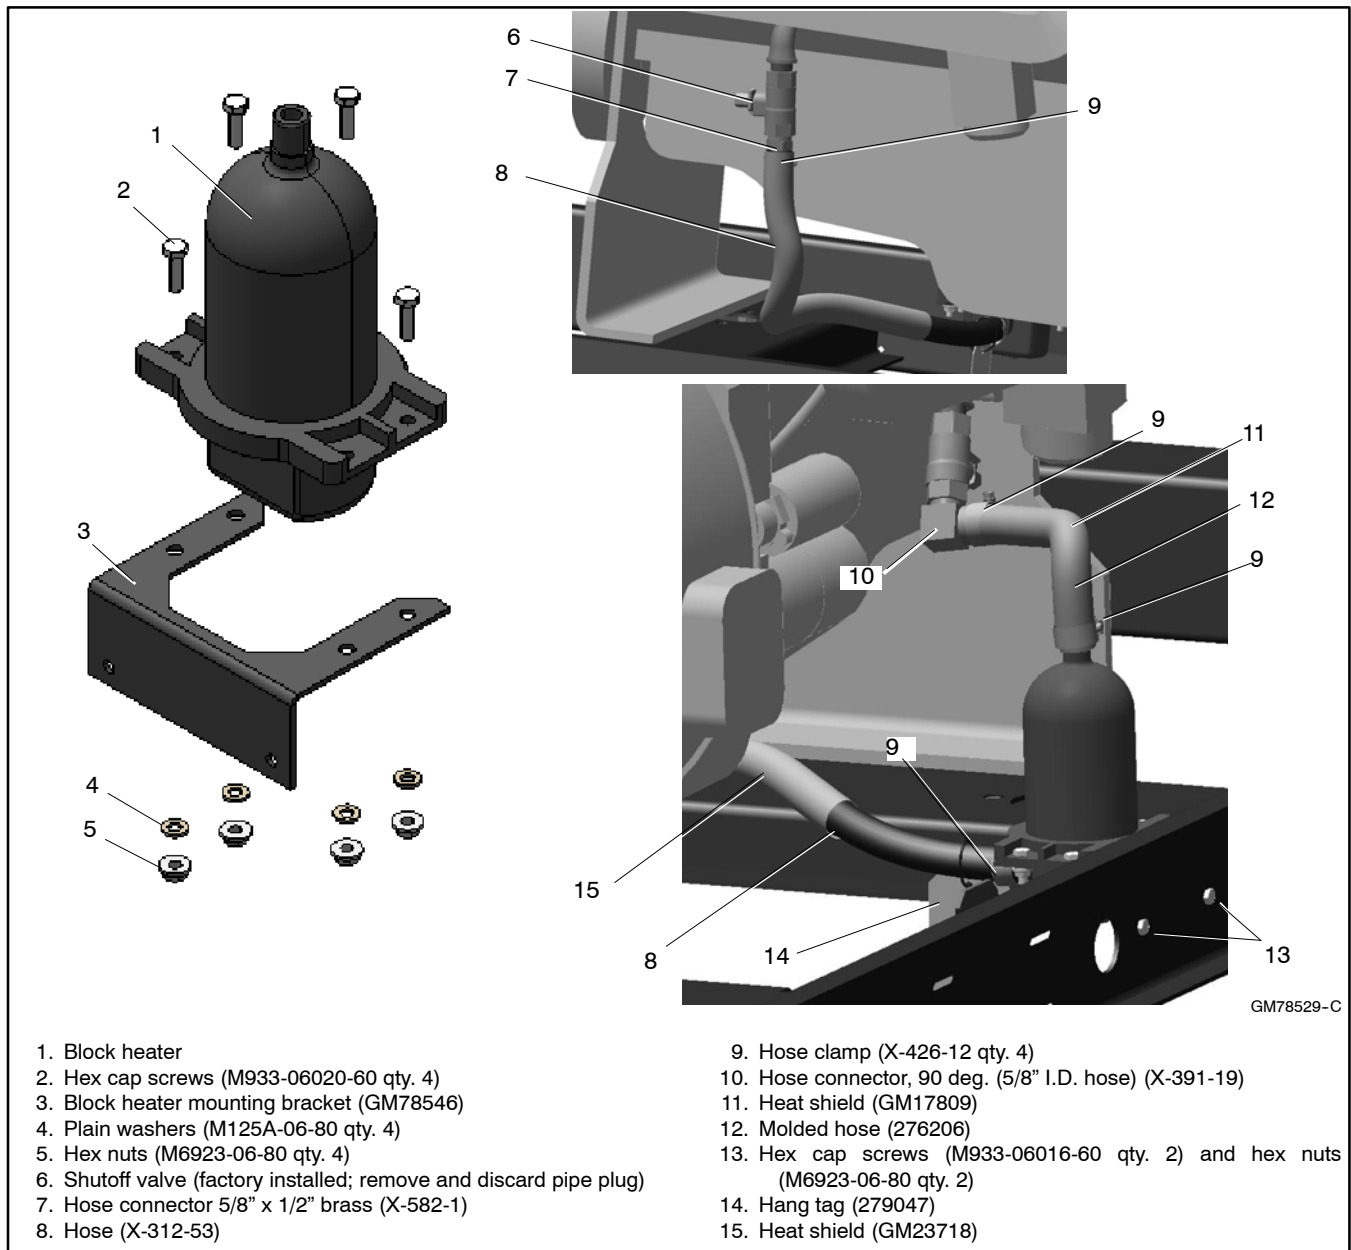

Figure 2 Block Heater
Refer to Figure 2 for component locations throughout this procedure.
5. Secure the block heater mounting bracket (with the block heater attached) to the skid using 2 screws (M933-06016-60) and 2 hex nuts (M6923-06-80). See Figure 2.
6. Locate the 2 shutoff valves installed on opposite sides of the engine block. See Figure 2. Verify that the shutoff valves are closed.
20. Secure the hang tag (279047) to the power cord. See Figure 2.